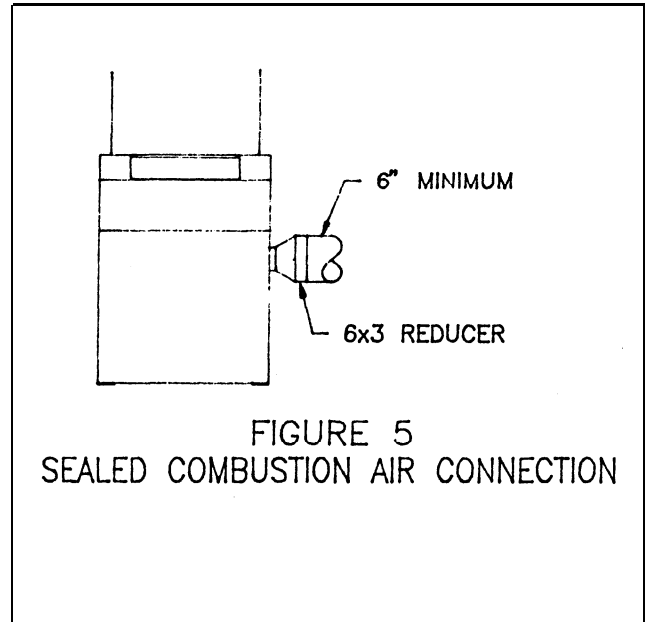

FIGURE 5
- The *minimum* exhaust vent and combustion air duct size is 6 in. dia. The exhaust manifold connection is designed to accommodate a 6 in. vent. A 6 in. x 3 in. reducer, shown in Figure 5, is included with the inlet air adapter to connect to 6 in. dia. galvanized, aluminum or PVC sealed combustion air duct.